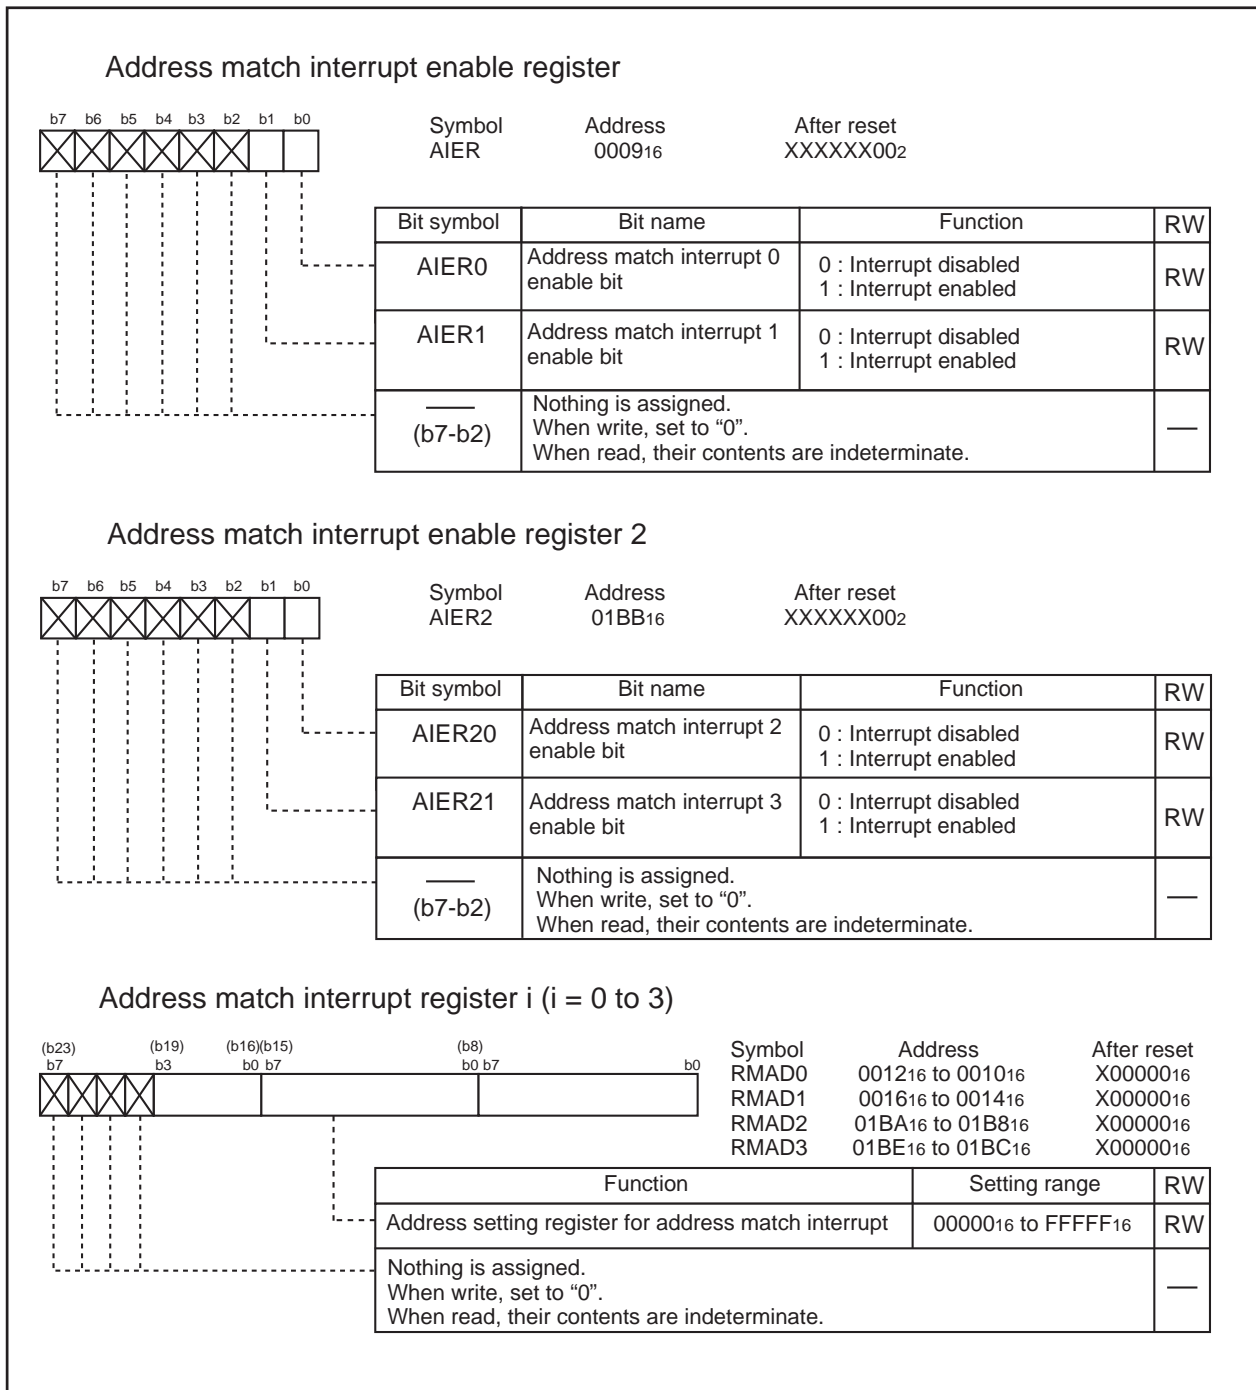

Figure 1.9.11. AIER Register, AIER2 Register and RMAD0 to RMAD3 Registers
Figure 1.9.11 shows the AIER, AIER2, and RMAD0 to RMAD3 registers.
- When the polarity of the  $\overline{\text{INT}}_0$  to  $\overline{\text{INT}}_3$  pins is changed, the IR bit is sometimes set to “1” (=interrupt requested). After changing the polarity, set the IR bit to “0” (=interrupt not requested). Figure 1.9.11 shows the procedure for changing the  $\overline{\text{INT}}$  interrupt generate factor.